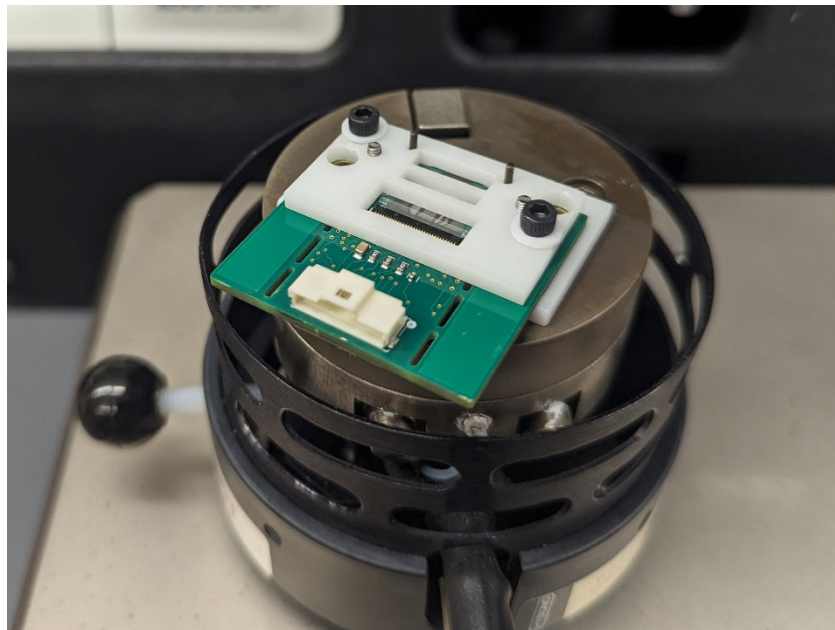

Figure 7: After aligning, the pMEA can be secured to the chip using screws.
- a. There are 4 holes, but 2 is sufficient (Figure 7).